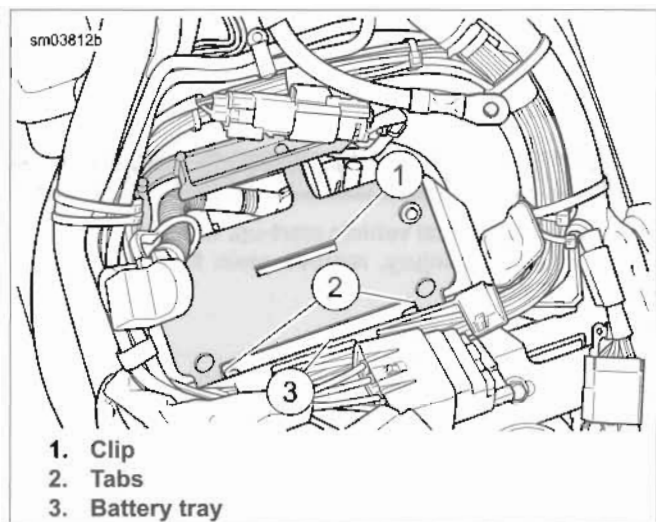

Figure 7-23. Battery Caddy
3. See Figure 7-23. Place battery caddy into position and install battery caddy clip (1) under front of battery tray (3). Make sure tabs (2) of battery caddy fit over rear of battery tray.